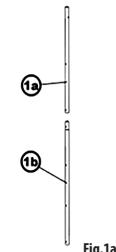

Fig. 1a
Put the lower elbows (3) on the correct ends (according to the holes) of stile tubes (1). Secure them in place using appropriate screws (5) and nuts (7) (**Fig. 1b**). For the divided ladder intended for the pools of 1.20 m depth pair the upper part (1a) and the lower part (1b) of stiles, (**Fig. 1a**).